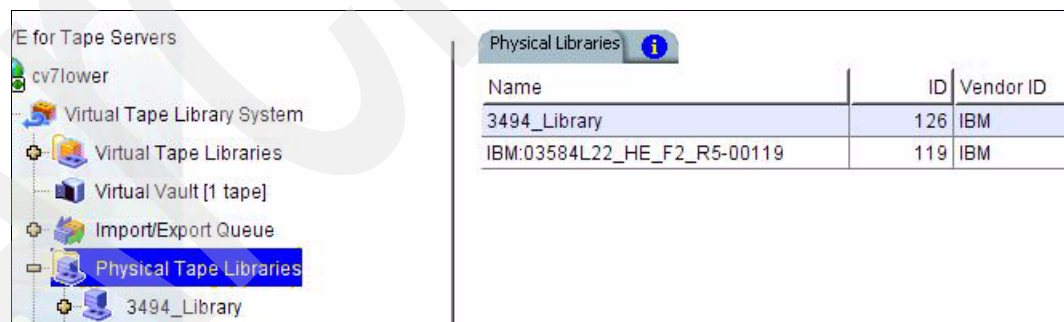

Figure 7-39 Physical tape library list
4. On the VE console, verify that the 3494 Tape Library appears in the Physical Tape Libraries list, as shown in Figure 7-39.